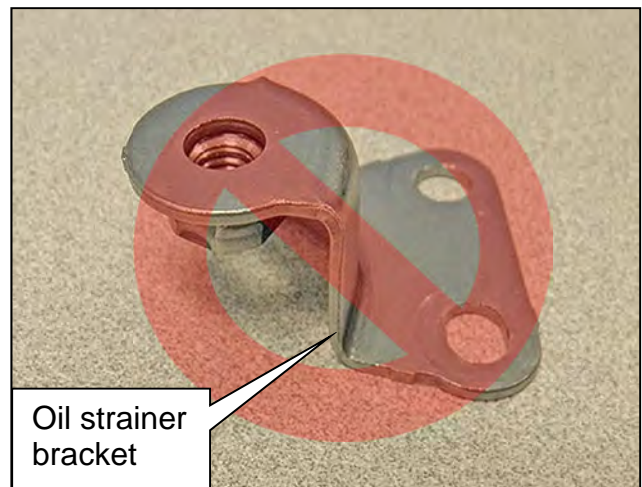

Figure 150
**HINT:** If an oil strainer bracket was removed, do not reinstall it. An oil strainer bracket (Figure 150) will not be used with the new oil strainer.